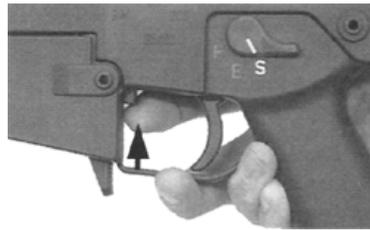

Fig. 34: Push bolt catch upward
- Push the bolt catch upward. (Fig.34)